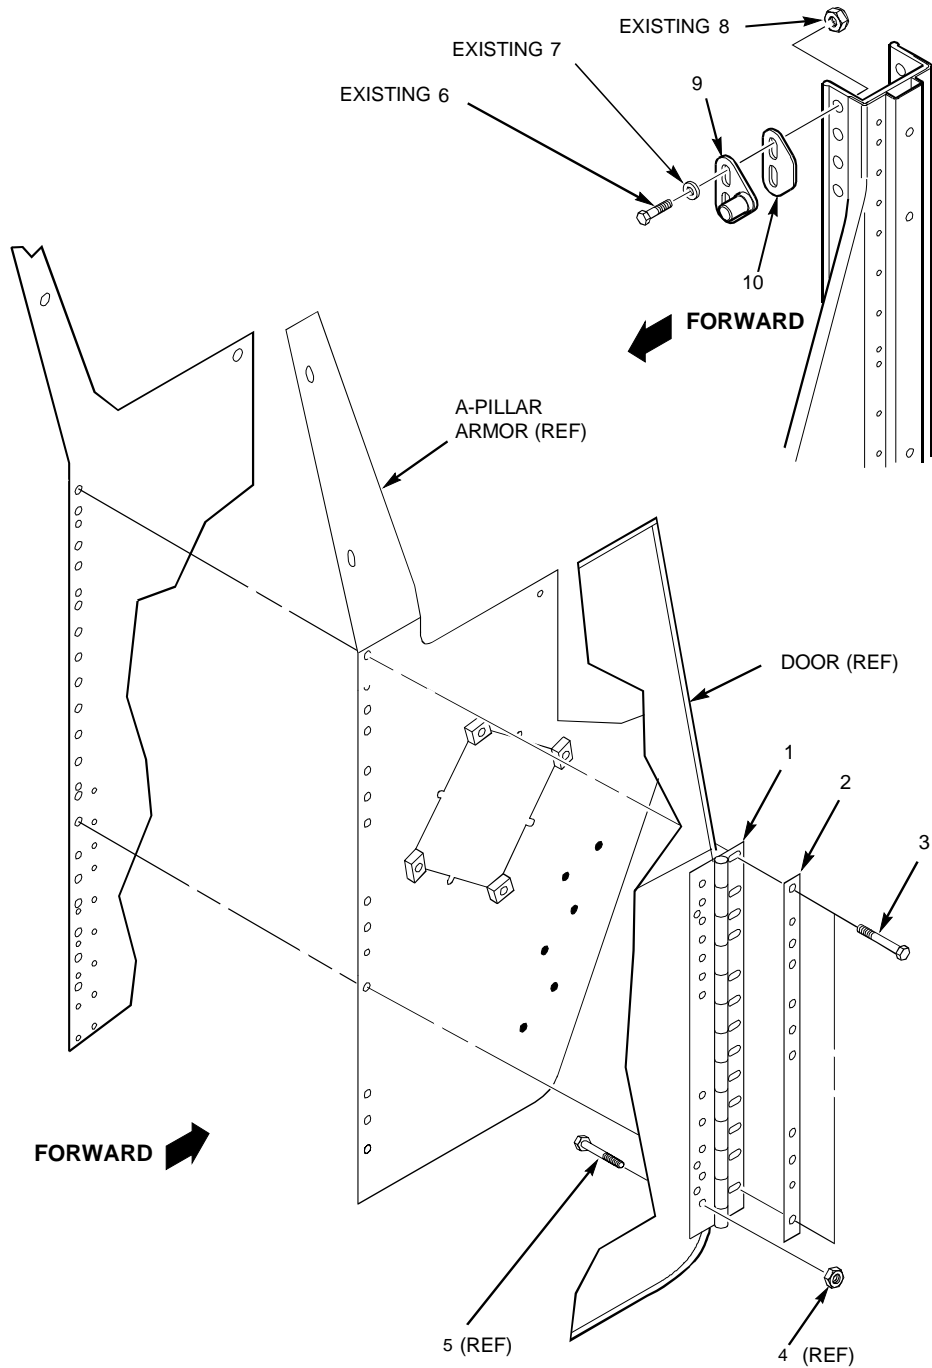

Figure 2-11. Right Front Door Striker Removal (2 and 4 Door)
2. Remove right front door striker (see figure 2-11).
- a. Remove two capscrews (6), washers (7), and locknuts (8) securing striker (9) and spacer (10).
- b. Remove striker (9) and spacer (10). Do not discard parts.